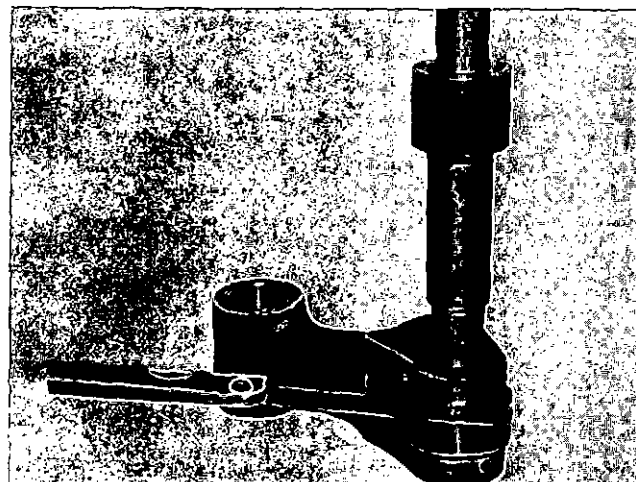

Fig. 4-22 (N10406). Install The Roller And Roller Pin.
1. Hold a 0.006 inch [0.15 mm] feeler gauge between the lever and roller. Install the roller pin through the lever and roller, Fig. 4-22. Remove the feeler gauge. Fasten the roller pin with a roll pin.